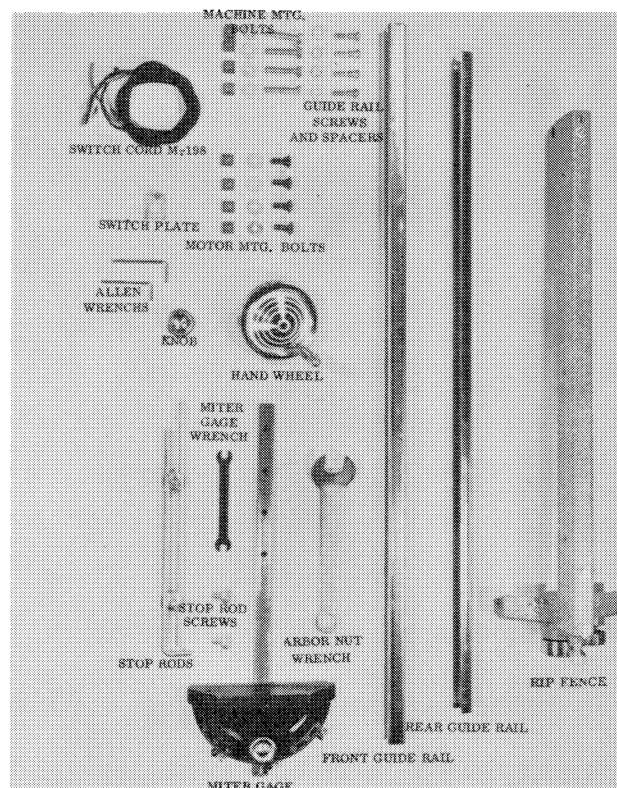

FIG. 3
Fasten the saw to the stand with the Hex Hd Cap Screws, washers and nuts furnished in package SP-34-600-E. See Fig. 3.
3. Attach front and rear guide rails using screws and spacers furnished in package SP-34-600-C. See Fig. 3.